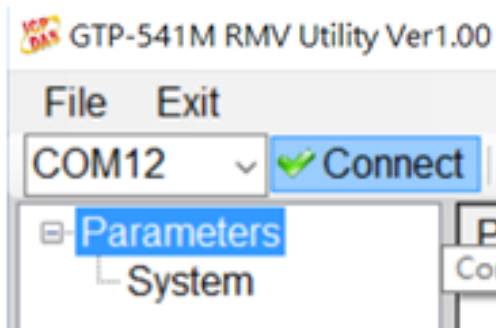

Figure 7.2.2
2. Press the “Connect” button to connect with the GTP-541M, as shown in Figure 7.2.2. If the cable fails, check if the RS-232/RS-485 Comport of the GTP-541M and the PC cable are selected correctly. Is the RS-232 / RS-485 line normal or whether the Init 4th and 5th pins are connected, as shown in Figure 7.2.3.